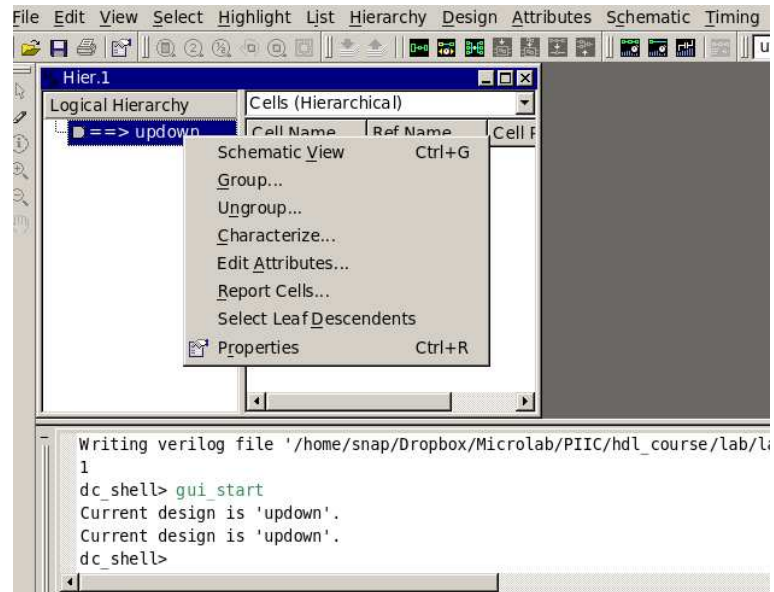

Figure 2: Viewing the schematic
16. Select the updown module from the hierarchy pane and right-click. A window should appear similar to the one shown in figure 2. Select the “Schematic View” option by left-clicking on it (alternatively you can also press Ctrl+G instead of bringing up this window).